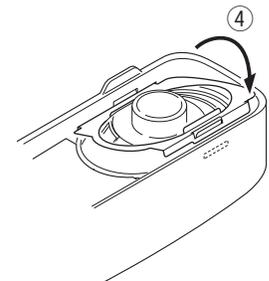

Fig. 7-3
1. Insert two tabs of the holder (J19-5468-03) into the hollows in the top of the panel. (①)
2. Push the two tabs of the holder in on the opposite side of those in step 1 above and fit them into the hollow in the bottom of the panel. (②)
3. Install the speaker holder onto the panel. (③)
6. Insert the hardware fixture (J21-8481-03) into the hollow of the panel as shown in Figure 7-3, then push two parts of the hardware fixture and fit it into the hollow of the top of the panel. (Fig. 7-3 ④)